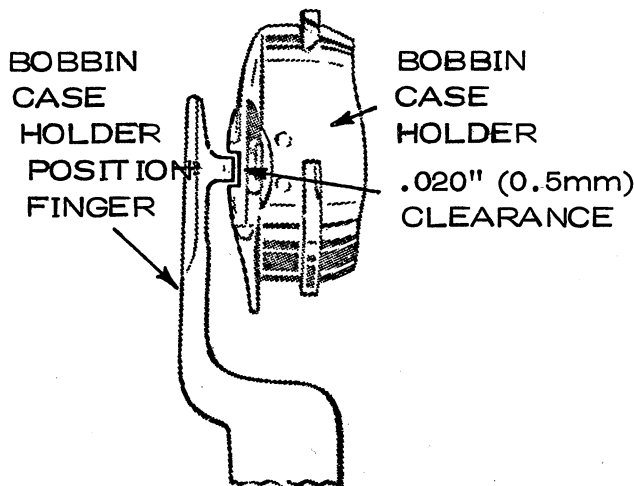

Fig. 20
5. Check position of bobbin case holder position finger (Fig. 20). The clearance between position finger and bobbin case holder should be just sufficient to allow a thickness of thread to pass through easily. Normal setting calls for approximately .020 inch (0.5mm) clearance, as shown in Fig. 20. The tip of the position finger should also be level with the top of the bobbin case holder.